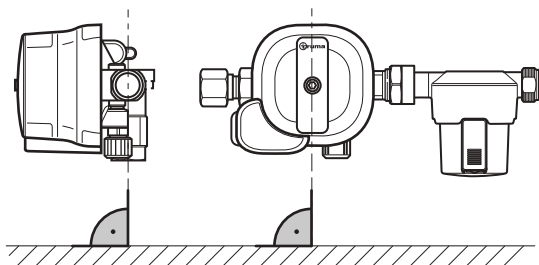

Fig. 5
- ▶ Align the gas pressure regulator and gas filter so that both are in a vertical position in relation to the ground (Fig. 5).